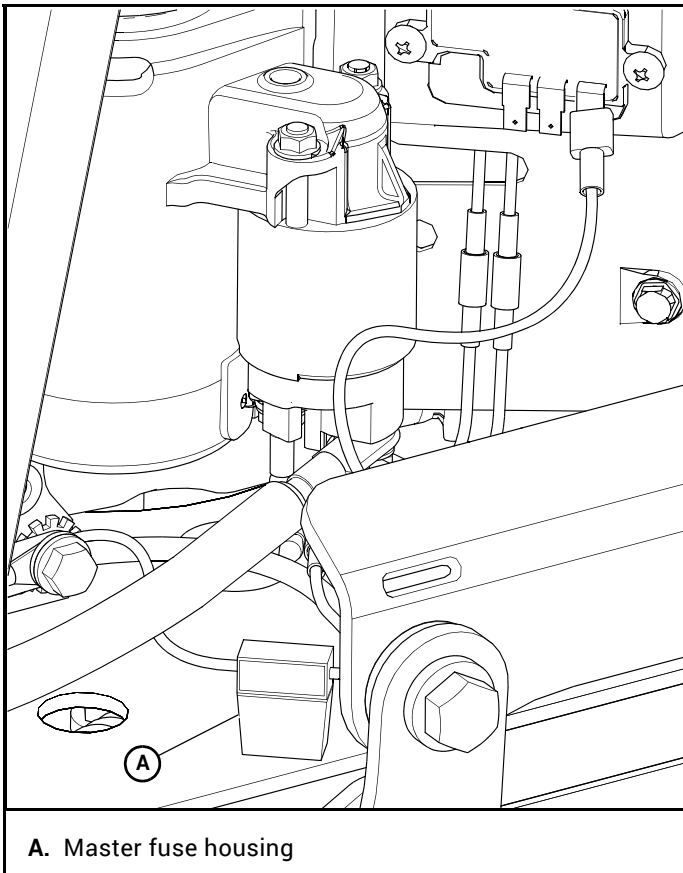

Figure 4-1
- A. Master in-line fuse (30 amp)** – Main fuse to protect the complete electrical system. It is located at the right rear of the engine next to the solenoid. Figure 4-1